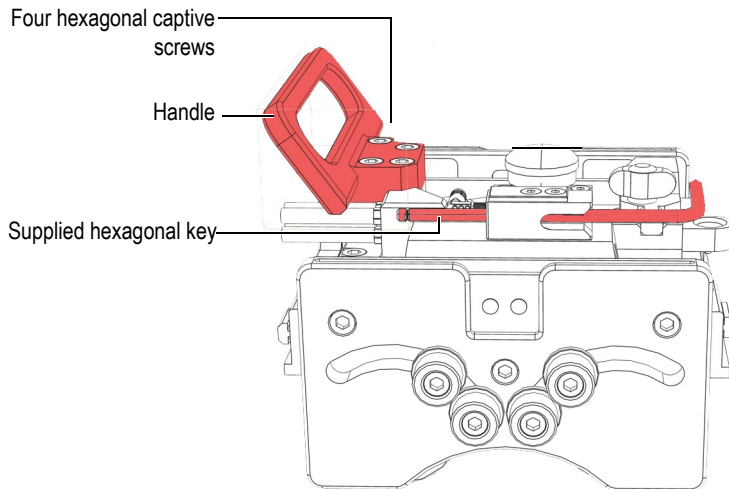

Figure 2-10 WeldROVER—removing the handle
2. Use the supplied hexagonal key to unscrew the four captive screws (Figure 2-10 on page 42).